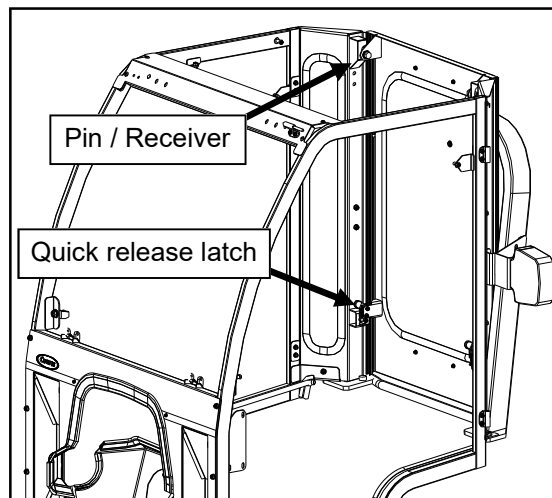

Fig. 8.2 (Rear Leg / Rear Panel Engagement)
8.2 Lift rear panel and slide the upper pins into the receivers on the rear legs. Engage the lower quick release latches at this time. See Fig. 8.2.